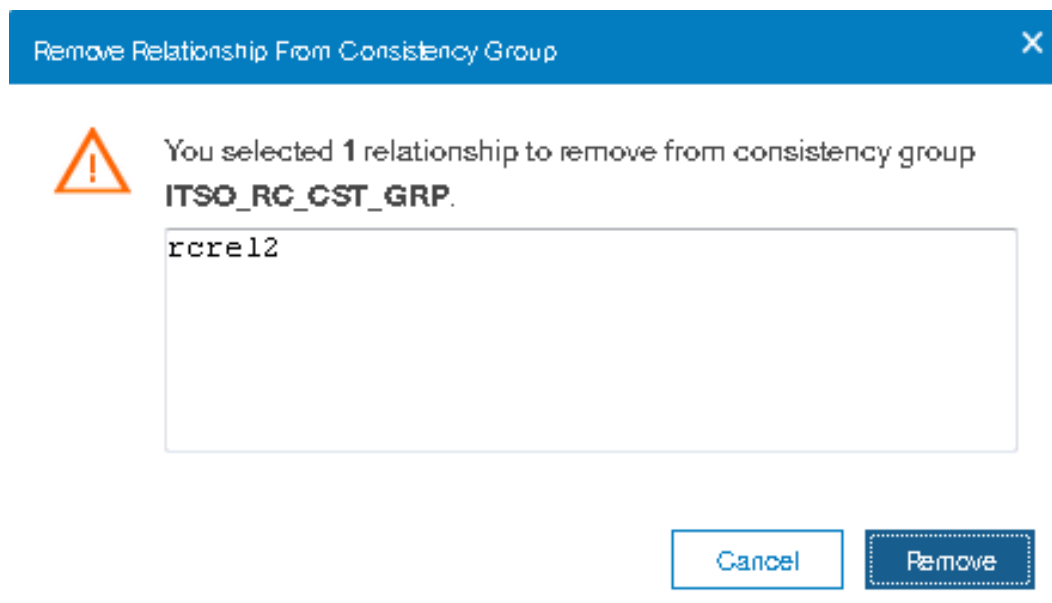

Figure 10-131 Remove a relationship from a Consistency Group
5. In the Remove Relationship From Consistency Group window, click **Remove**, as shown in Figure 10-131 on page 581.